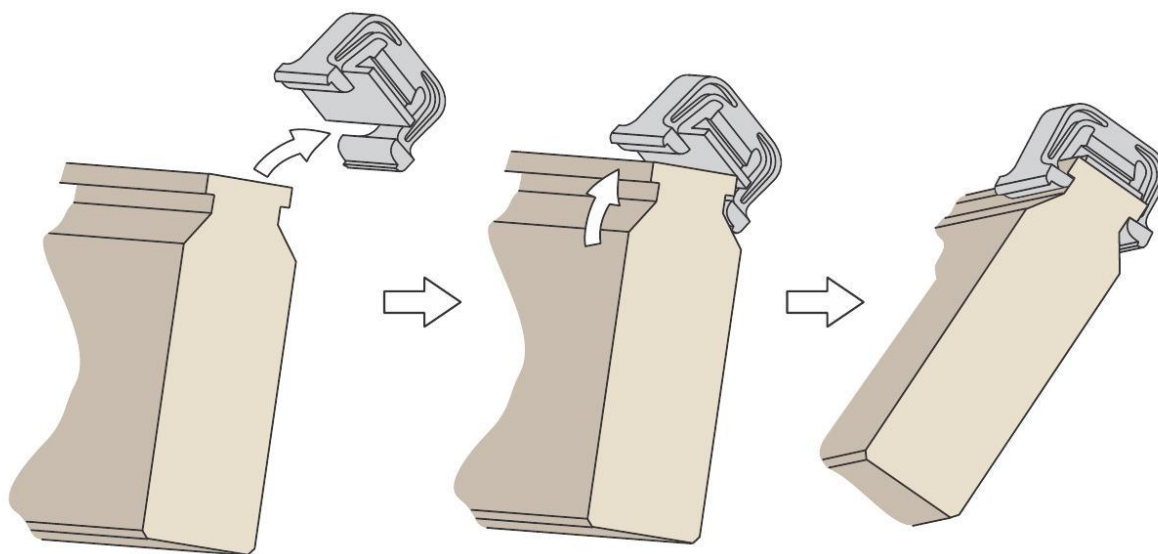

Figure 10.2: Clip attachment to horizontal batten
47. Snap clips onto the top rear edge of each batten. Refer to Figure 10.2.
53. Snap clips onto the sides of each batten. Refer to Figure 10.2.